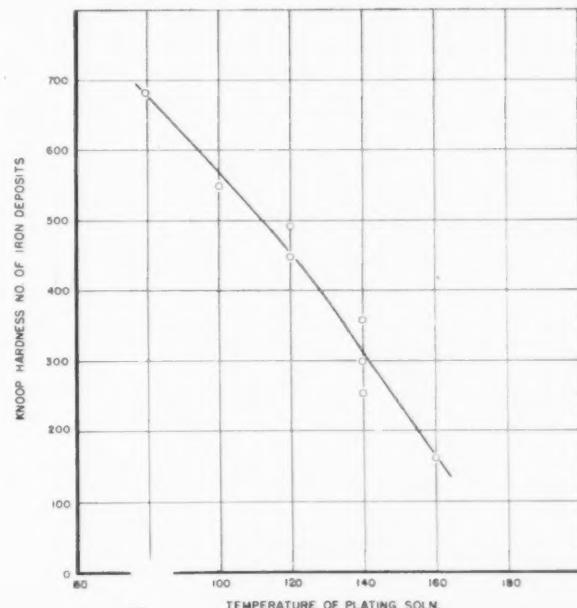

Fig. 2. Effect of bath temperature on hardness of deposit pH 6.6; current density, 6.45 amp./dm.² (Knoop numbers are approximately equal to Brinell numbers.)
2. Effect of Temperature. Test samples were prepared as in the pH-hardness tests, pH of the solution was held approximately constant, and the temperature was varied from 80° to 160° F. (26.6 to 71.0° C.). Results are shown in the graph of Fig. 2.